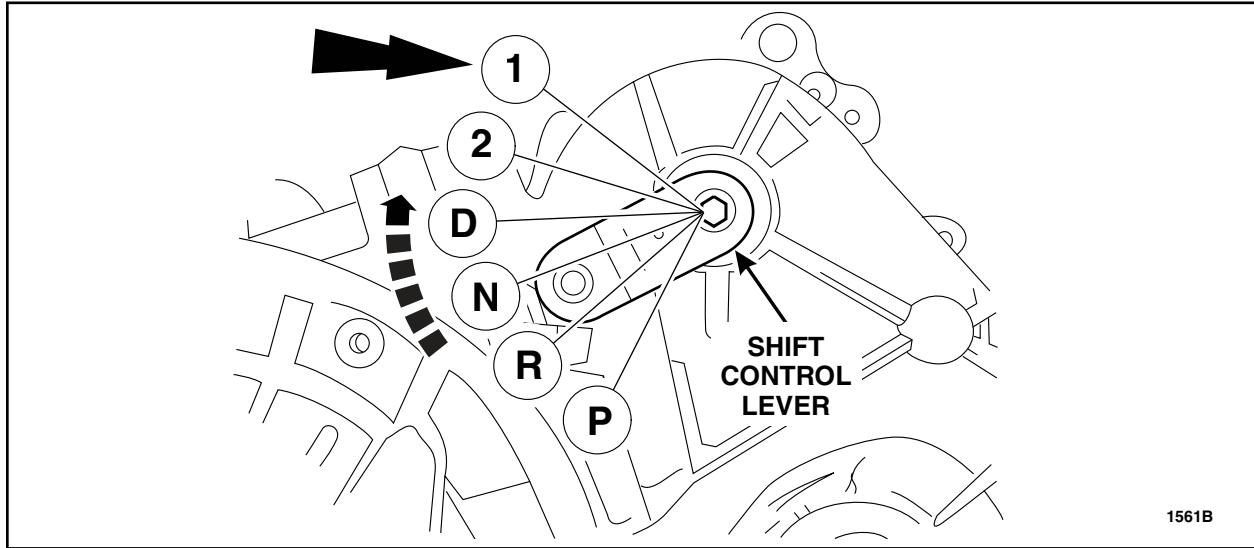

FIGURE 2
3. Rotate the shift control lever to the "Low 1" position. See Figure 2.